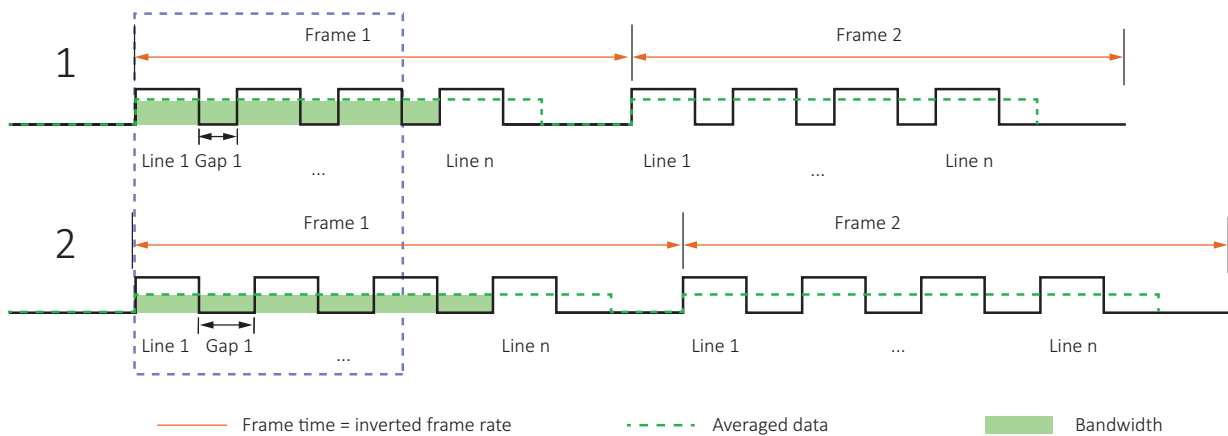

Figure 93: Sensor data output and camera data output
Figure 93 shows the bandwidth for a higher (1) and a lower (2) value for `DeviceLinkThroughputLimit` with Alvim G1.
- When high-resolution Alvim G1 cameras are operated at higher frame rates, corrupted frames can occur. This is shown schematically in Figure 93.